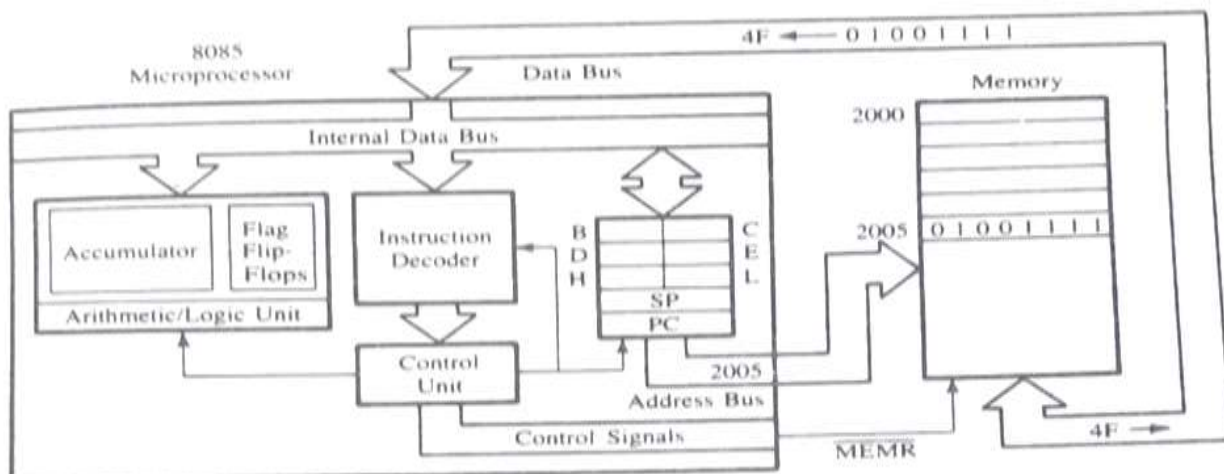

Figure 11 Instruction Fetch Operation
1. The program counter places the 16-bit address 2005H of the memory location on the address bus (Figure 11).
- Figure 11 shows how the 8085 MPU fetches the instruction using the address, the data, and the control buses. Figure 11 is similar to Figure 3 Memory Read operation except that Figure 11 shows additional details.